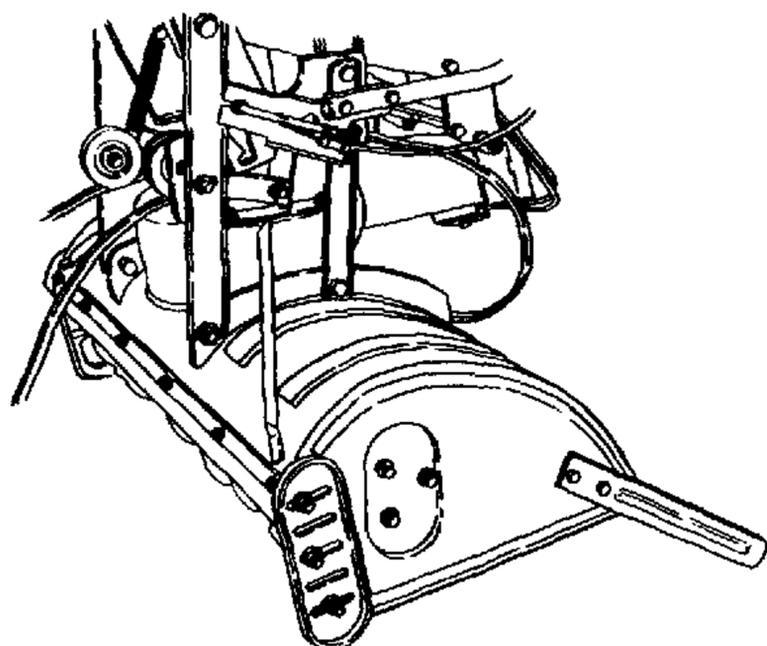

Figure 7-43. Stand Snow Thrower On Auger Housing.
- b. Stand the snow thrower up on its auger housing. See Figure 7-43.
- c. Remove the shoulder bolts which are used as idler pulley belt guides. See Figure 7-43.
- d. Remove the auger drive belt from both snow thrower idler pulleys and the auger drive pulley. Refer to Figure 7-43.